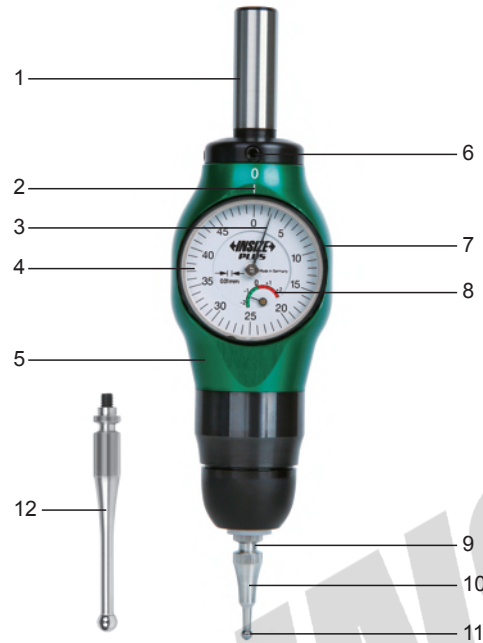

fig.3
- Repeat the produce until the desired runout is achieved (fig.3).